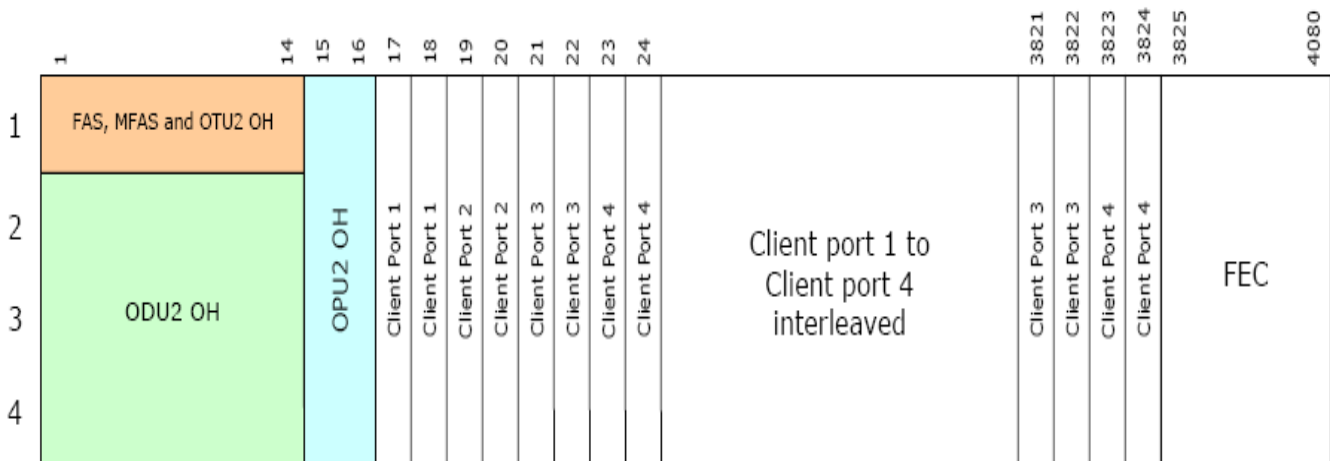

Figure 3: Organization of the mapped 4 client signals in G709 OTU2 frame.
Incoming signals must be synchronized and are mapped transparently in a proprietary frame prior of being multiplexed together for framing in a G.709 OTU2 signal. The organization of mapped client signals into the G.709 OTU2 is described on Figure 3. Synchronization of client signals is performed by a justification process.
- A client BIP-8 parity (CBIP) is computed over each mapped client signal and inserted in the corresponding mapping frame. The client BIP parity covers one line for each client signal (see Figure 3 for the organization of client signals in the outgoing G.709 OTU2 frame), which means the total number of bytes covered is 3792 bytes per mapped client signal (including the CBIP byte itself).